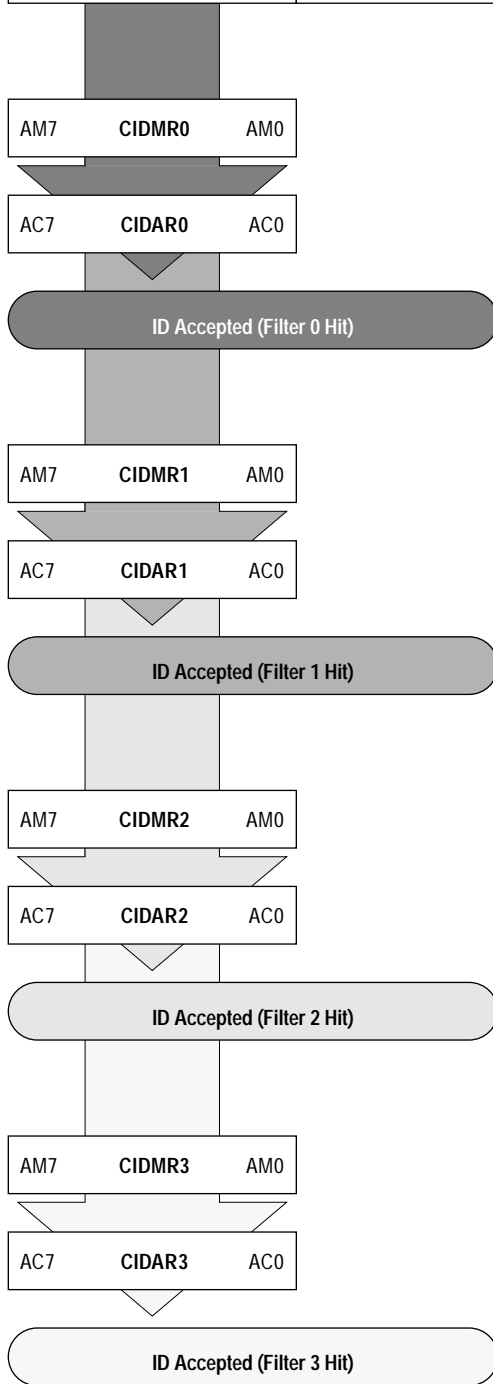

Figure 98 8-bit Maskable Identifier Acceptance Filters
- Eight identifier acceptance filters, each to be applied to the first 8 bits of the identifier. This mode implements eight independent filters for the first 8 bits of a CAN 2.0A/B compliant standard identifier or a CAN 2.0B compliant extended identifier. Figure 98 shows how the first 32-bit filter bank (CANIDAR0–3, CANIDMR0–3) produces filter 0 to 3 hits. Similarly, the second filter bank (CANIDAR4–7, CANIDMR4–7) produces filter 4 to 7 hits.